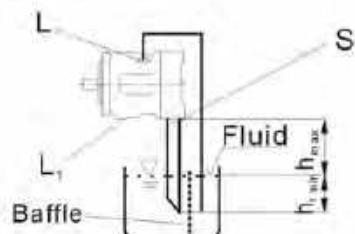

Fig. 4
b) If the minimum fluid level is equal to or below the top of the pump, pipe ports "L" and possibly "S" as Fig. 4; close port "L1".
- a) When mounting above the reservoir, see fig. 4. Conditions according to 1.2.1.